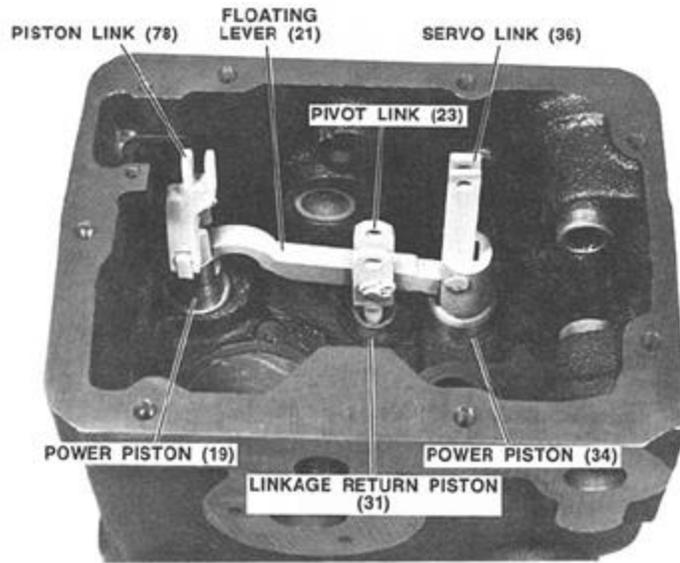

Figure 5-17. Power Piston Linkage Assembly
14. Insert terminal lever (29), terminal lever link (26), and pivot link (23) into the case (Figure 5-17). Insert floating lever (21) through the slot in pivot link (23). Fasten together with pin (24) and secure with a cotter pin.
15. Insert piston link (78) and pivot pin (75) into top hole in power piston. Secure with washer (76) and a cotter pin. See Figure 5-17.